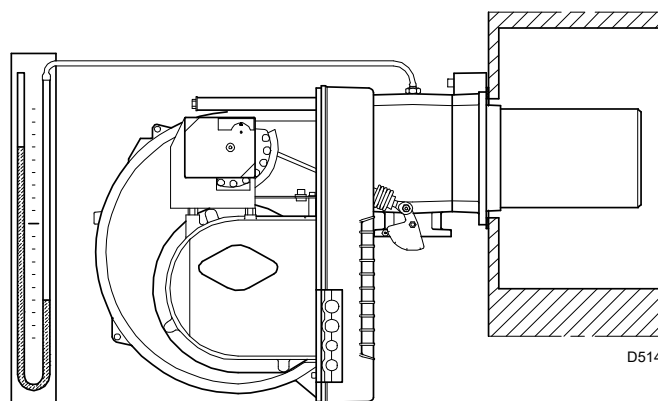

Fig. 24
- Fit a U-type pressure gauge (Fig. 24) to the gas pressure test point on the pipe coupling.
Once the above steps are completed, the burner should ignite. If the motor starts but the flame does not appear and the control box goes into lockout, reset and wait for a new ignition attempt. If ignition does not occur, it is possible that gas is not reaching the combustion head within the safety time period of 3 seconds. Therefore, it is necessary to increase gas ignition delivery. The arrival of gas to the sleeve is indicated by the U-type pressure gauge (Fig. 24).
A rough indication can be obtained from tables on page 5, just read the gas pressure on the U-shaped pressure gauge, see Fig. 24 on page 22, and follow the instructions given in page 18.